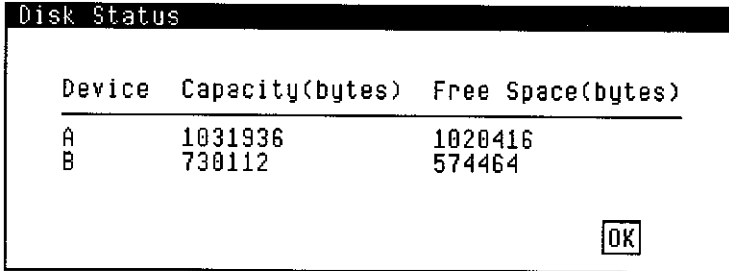

Figure 8-6. Delete File(s) Window
4. Click on <Delete>. The Delete window, Figure 8-6, is displayed. Click on [OK] to delete the selected file(s) and remove the Delete window from the display.